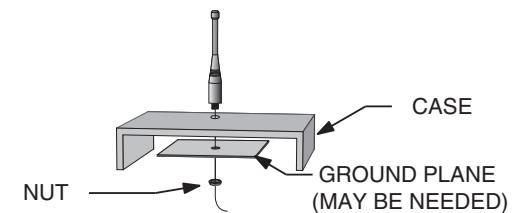

Figure 59: Remote Ground Plane
6. In some applications, it is advantageous to place the module and antenna away from the main equipment (Figure 59). This can avoid interference problems and allows the antenna to be oriented for optimum performance. Always use 50Ω coax, like RG-174, for the remote feed.